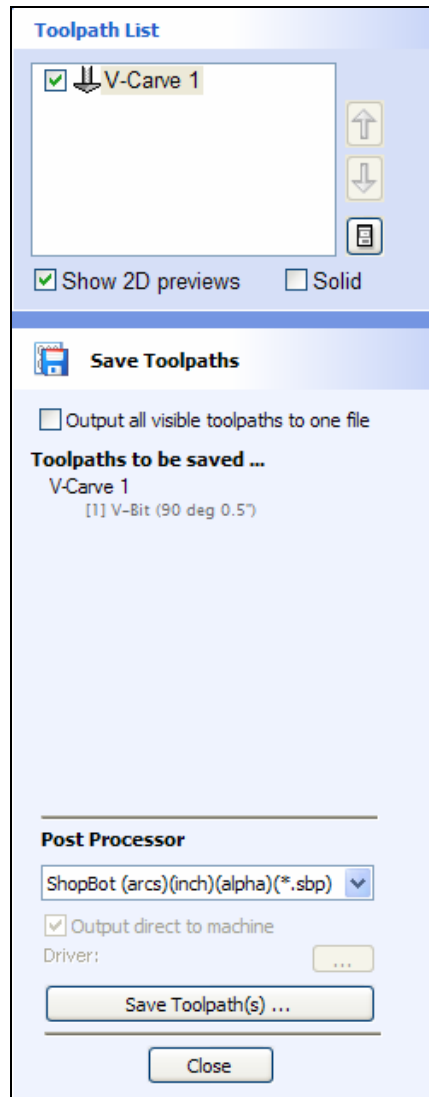

Figure 10. Save Toolpath form
15. From the pull-down list of postprocessors, select the appropriate one for your CNC machine as shown above in Figure 10.